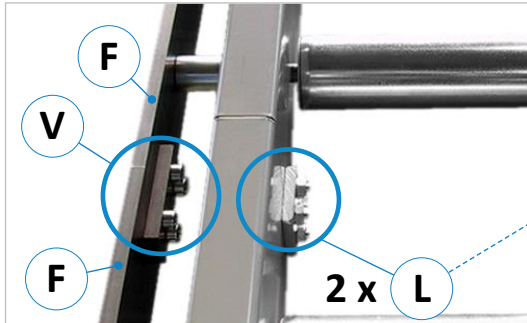

Figure 7: Connecting flat bar and segments
- Afterwards the delivered roller conveyor segments must be connected to each other on the front and rear side with the two connecting lugs (L) by screwing them together (see ⇒ Figure 7).
⇒ Figure 7: Screw the vertically mounted guide flat bars (F) of the roller conveyor tightly together with the screwed-on connecting bracket (V). When attaching the connecting bracket (V), make sure that the flat bars are exactly flush with each other → The air gap between the flat bars should be as small as possible.